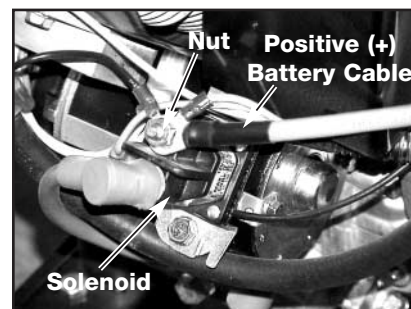

Figure 4
3. Place "L" bolt (B) through top and bottom brackets and secure with wing nut (C).
4. Locate the solenoid on the left side of the unit. See Figure 4.
5. Remove the nut from the solenoid post and place one end of the positive (red) battery cable onto the post. Reassemble nut and tighten securely. See Figure 4.